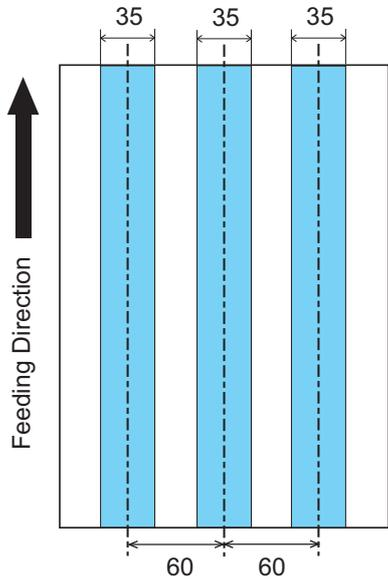

Fig.1
- Punched holes are not allowed within 35 mm (1.4 in) of the vertical lines of the center, right and left sides of the the document as shown in Fig. 1.
- Other paper shall not be glued within 35 mm (1.4 in) of the vertical lines of the center, right and left sides of the the document as shown in Fig. 1.
- The area shown in Fig. 1 can be changed using the Software Operation Panel. For details, please refer to "8.4 Multifeed Detection" on page 188.